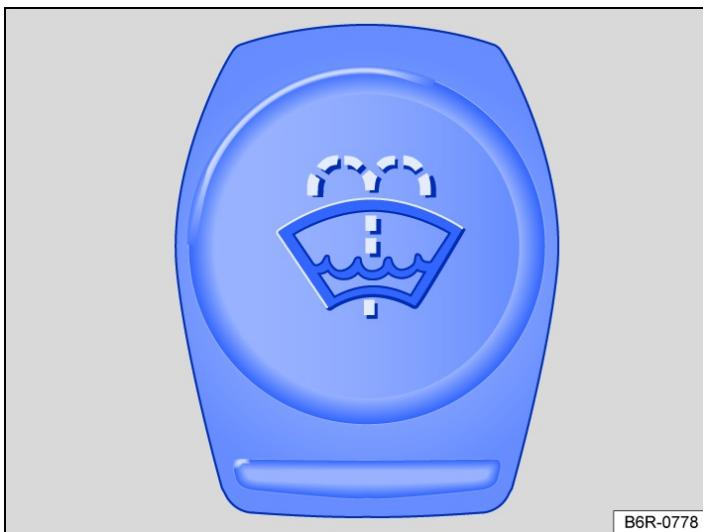

Fig. 1 In the engine compartment: cap of washer fluid reservoir.
- The washer fluid reservoir is identified by the  symbol on the cap → Fig. 1.